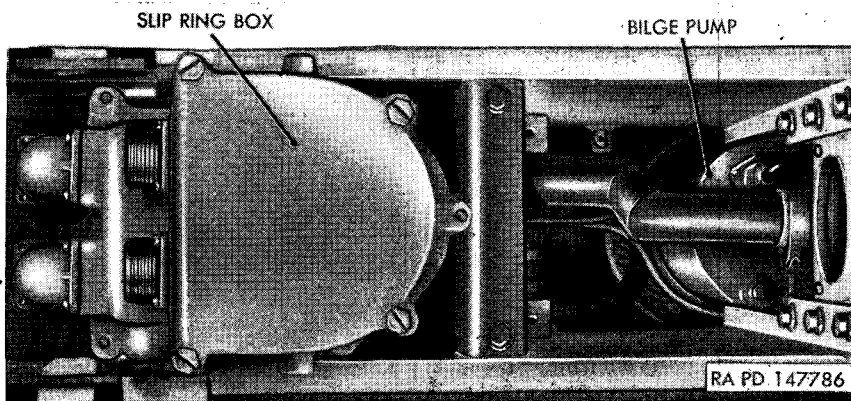
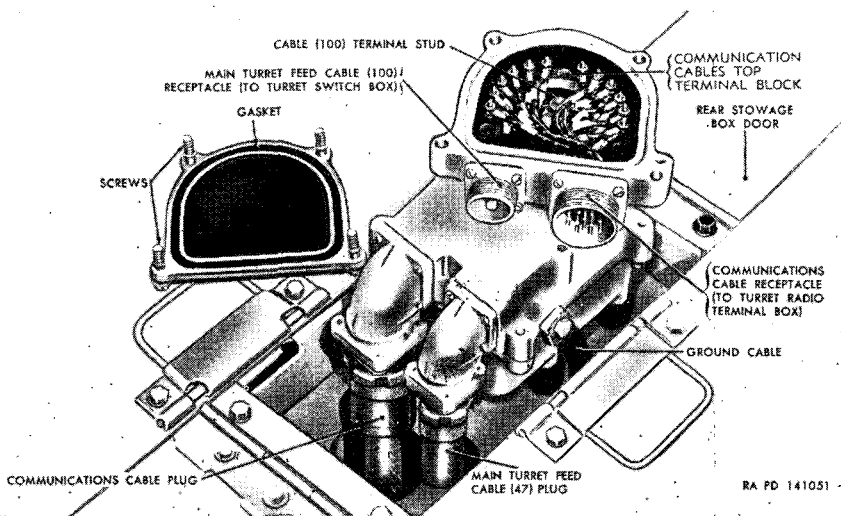
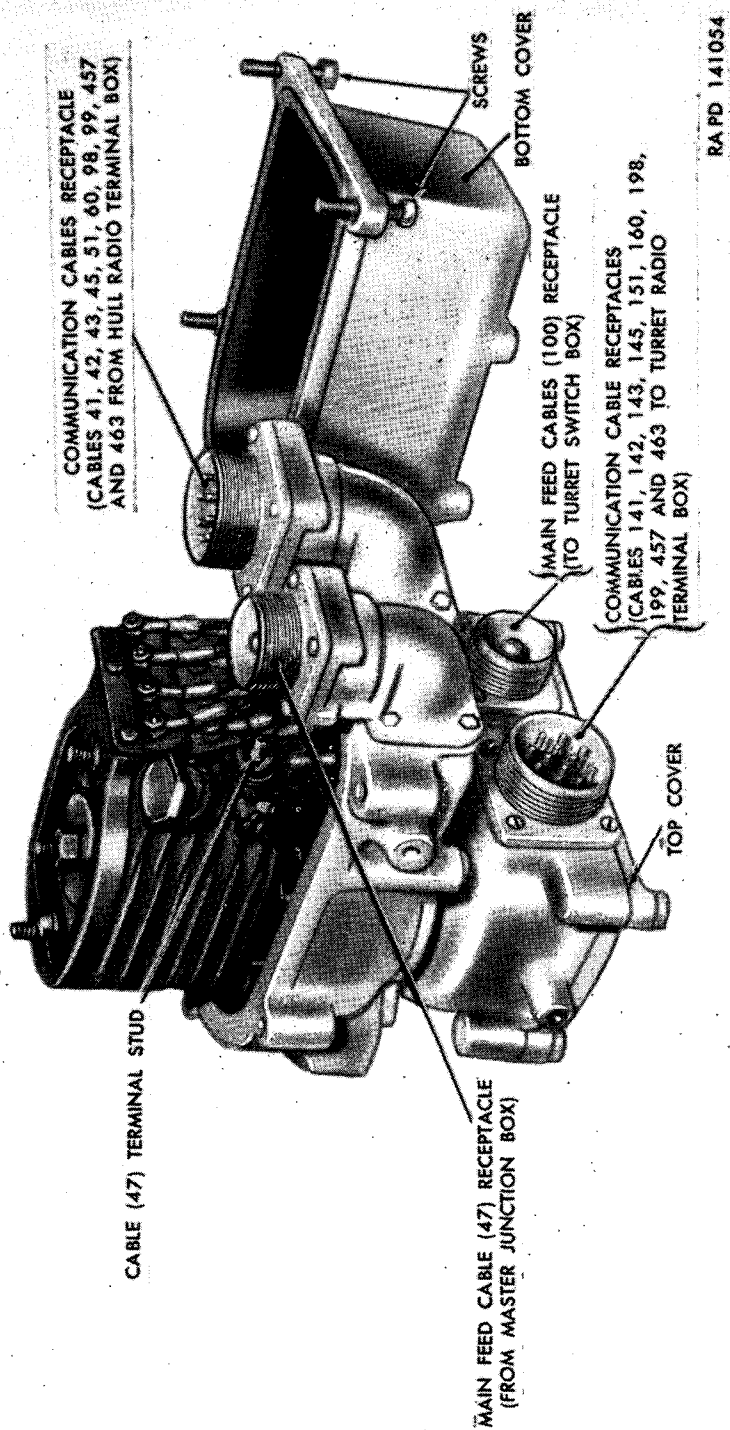

Figure 305. Slip ring box and front bilge pump—installed view.
Figure 306. Slip ring box with top cover removed.
Figure 307. Slip ring box with bottom cover removed.
a. REMOVAL. Turn off master relay switch (fig. 18). Remove ground cable from side of slip ring box (fig. 306). Remove two jam nuts and two nuts securing box turning arm to turret bracket. Remove ground strap which is secured to top portion of slip ring box by removing two cap screws. Remove yoke and turning arm. Disconnect four cable connector plugs at slip ring box (fig. 307) and remove cables. Lift up rear stowage box door (fig. 306) and remove four cap screws securing slip ring box into bottom of recess in fighting compartment floor. Remove slip ring box.
b. INSTALLATION. Position slip ring box to bottom of floor recess (fig. 305) and secure with four cap screws and lock washers. Install yoke and turning arm. Secure arm with two jam nuts and two nuts. Connect ground strap to top of box with two cap screws and lock washers. Secure ground cable to side of box (fig. 306) with screw and lock washer. Connect four cable connector plugs to receptacles on turret slip ring box (fig. 307).